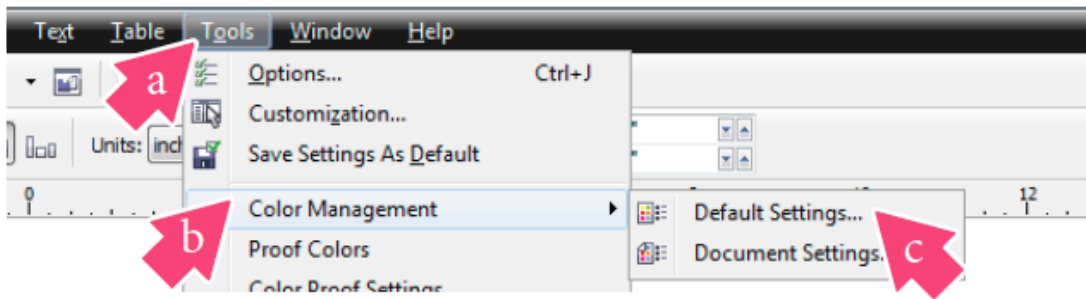

FIGURE 3
3. In the Menu Bar, click **Tools > Color Management > Default Settings**. See Figure 3.